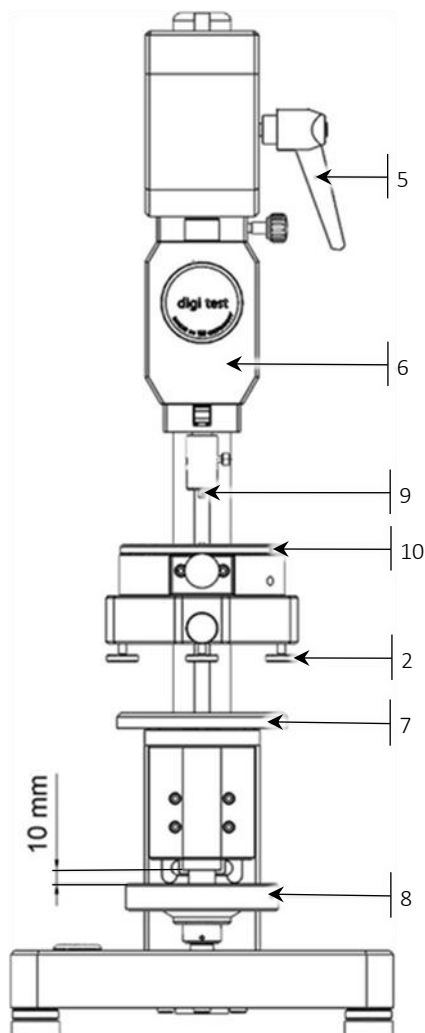

Fig. 1 Test Stand
- Move quick center device up by turning hand wheel (8, Fig. 1), so that pressure plate (9) is between the centering pins (1) and in a distance of ≈ 1 mm to supporting table.